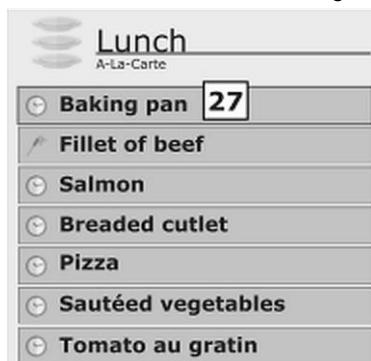

Fig. 35
1. Press the empty level and select sub-program dubbed 'Tray' (27, Fig. 35).
1. To change Rack Control program after opening it, press 28 key (Fig. 35) in the left column of the displayed settings.